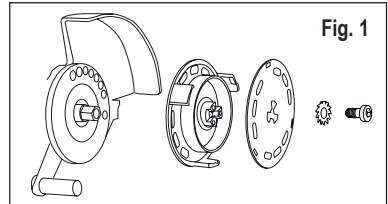
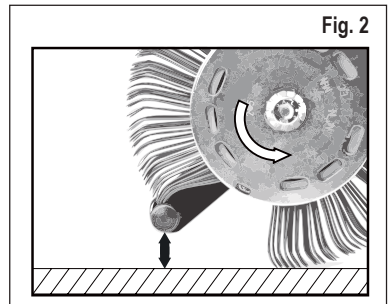

Fig. 1
Fig. 2
3. Interrupt supply of compressed air, then fasten the Die Blaster® 11 mm belt correctly to the tool using the related adaptor system **AS-012** (pay attention to direction of travel) and the related serrated lock washer and screw. See Fig. 1 and Fig. 2
- Æ Are you using an belt with the wrong direction of travel? – Fit the brush belt such that it runs in the correct direction (see section 6, Placing in operation, Fig. 2).